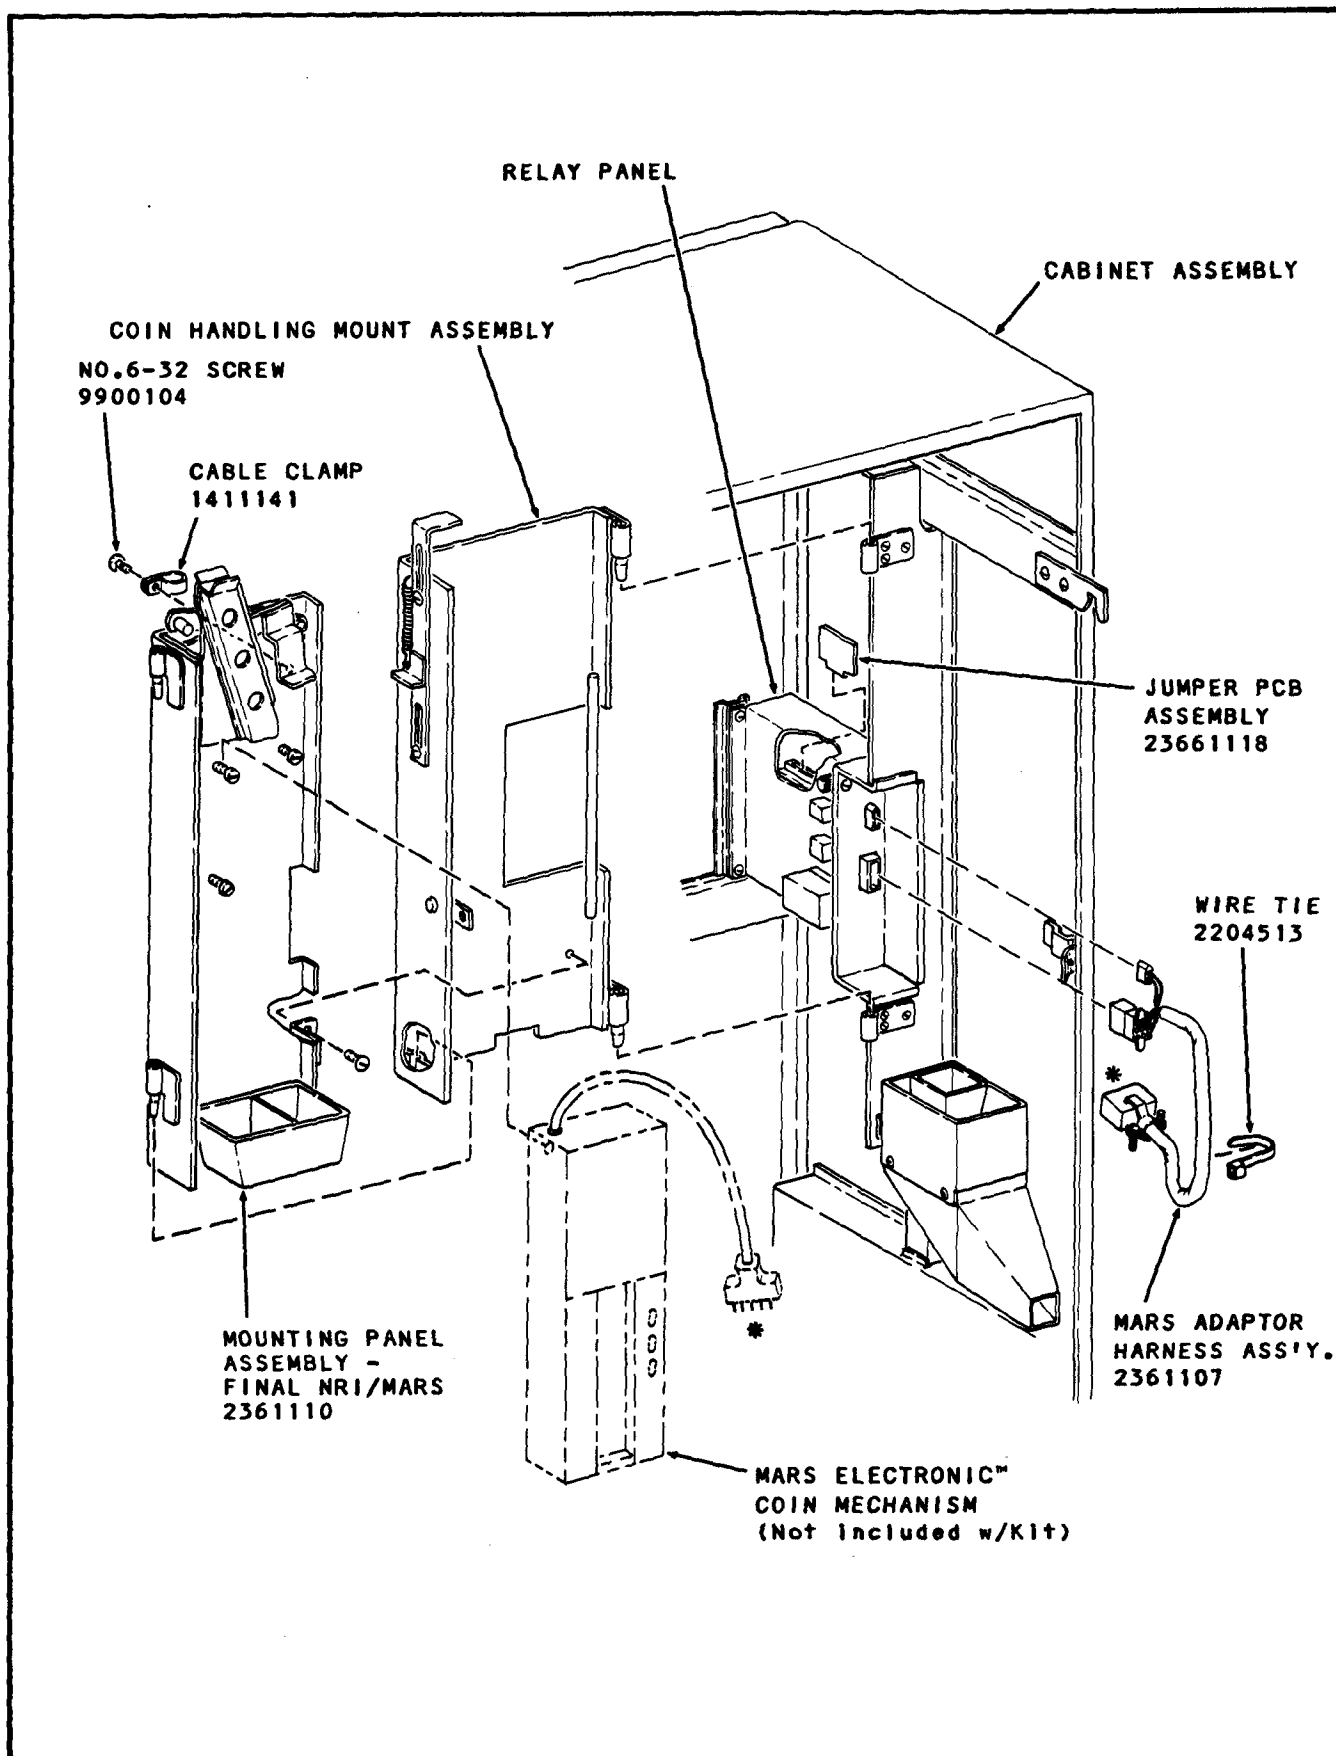

FIGURE 3
7. Remove the following parts from the Cabinet Assembly: Coin Mechanism, Mounting Panel Assembly, Coin Handling Mount Assembly and the Relay Panel, as shown in Figure 3.
8. Remove the Jumper PCB Assembly from the Relay Panel as shown in Figure 3.
1. Install Jumper PCB Assembly, furnished in kit, in the Relay Panel in the Merchandiser. See Figure 3.
2. Assemble Cable Clamp and Screw to the Mounting Panel Assembly as shown in Figure 3.
3. Assemble the Mounting Panel Assembly to the Coin Handling Mount Assembly as shown in Figure 3.
4. Mount the assembly in B-3 to the Cabinet Assembly by sliding upper and lower hinge pin in to place as shown in Figure 3.
5. Connect the Mars Adaptor Harness to the receptacle located in the Cabinet Assembly as shown in Figure 3.
6. Attach the Wire Tie around the Mars Adaptor Harness as shown in Figure 3.
7. Slide the Mars Electronic™ Coin Mechanism into place on the Mounting Panel Assembly and connect the Coin Mechanism Harness to the Mars Adaptor Harness as shown in Figure 3.